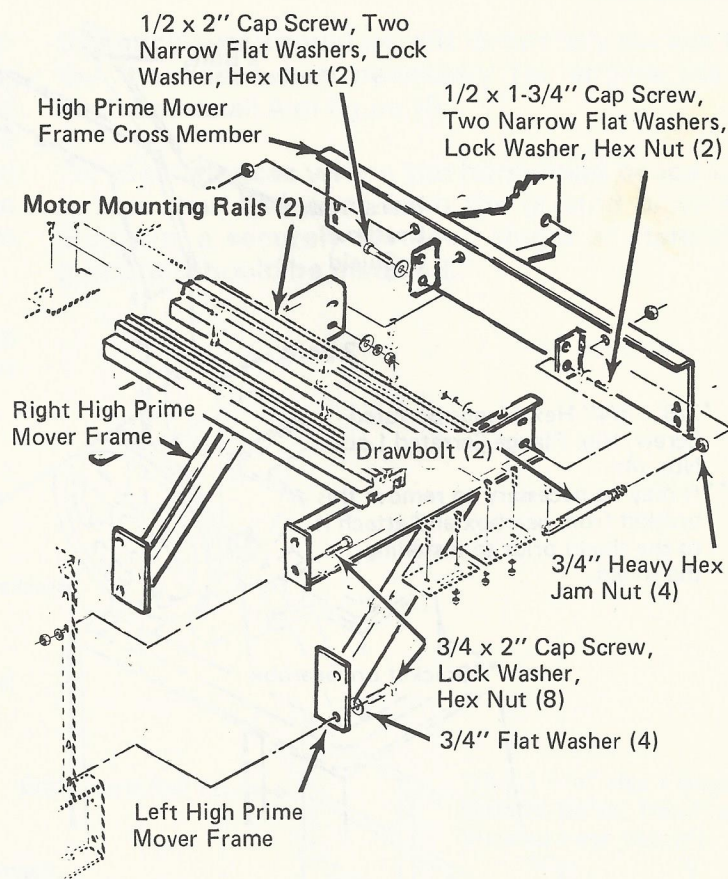

Figure 26
38. Remove all items from the high prime mover frame shipping bundle. Then attach the right and left high prime mover frames to the holes in the flange on each side of the gearbox mounting stand with bolts shown in figure 26. Tighten bolts to torque values specified in figure 3.
39. Attach high prime mover frame cross member to ends of left and right high prime mover frames with bolts specified in figure 26.
40. Place motor mounting rails on high prime mover frame as shown in figure 26 and attach loosely with clamping plates hooked under the flanges of the high prime mover frame. Refer to steps 16 through 19 of "Assembly of the Pumping Unit" as applicable for an electric motor for bolts and parts used except that drawbolt supports are not used to anchor the drawbolts on the high prime mover configuration. The drawbolts anchor to the high prime mover frame cross member as shown in figure 26. Check that belts are in alignment and properly tensioned before proceeding to the following step.